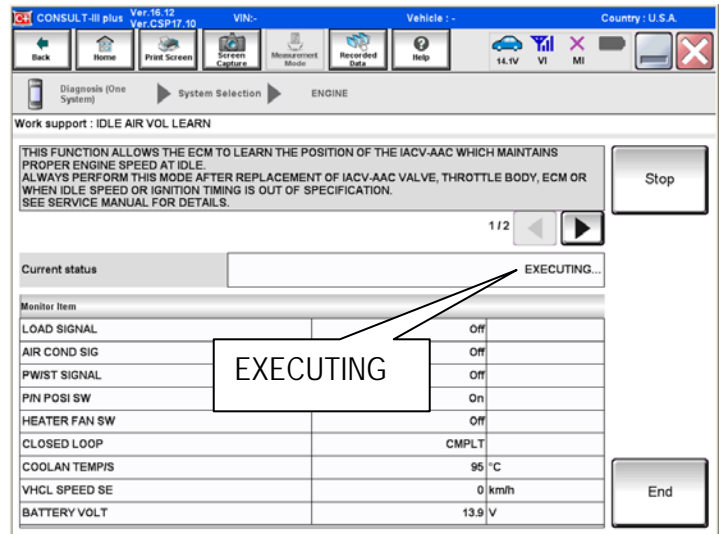

Figure 4
- CIII plus will display "EXECUTING" in the "Current status" box while the IAVL procedure is in process. See Figure 4.